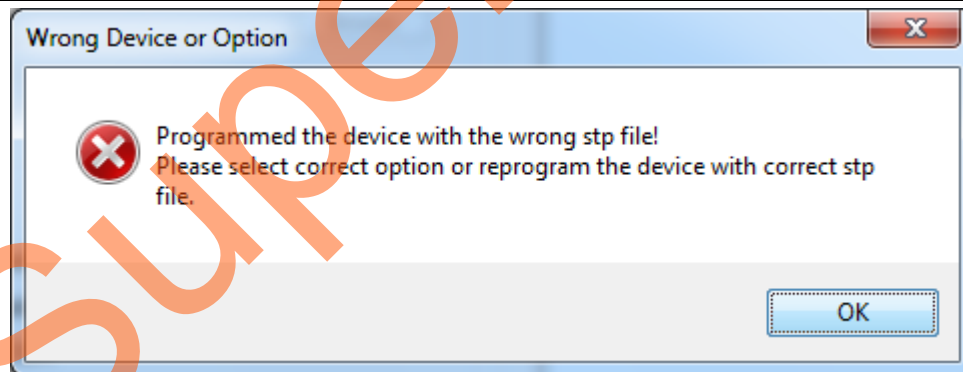

Figure 11. Wrong Device or Option Message
10. If the SmartFusion2 SoC FPGA device is programmed with a STAPL file in which MDDR is not configured for DDR memory then it shows an error message, as shown in Figure 11.